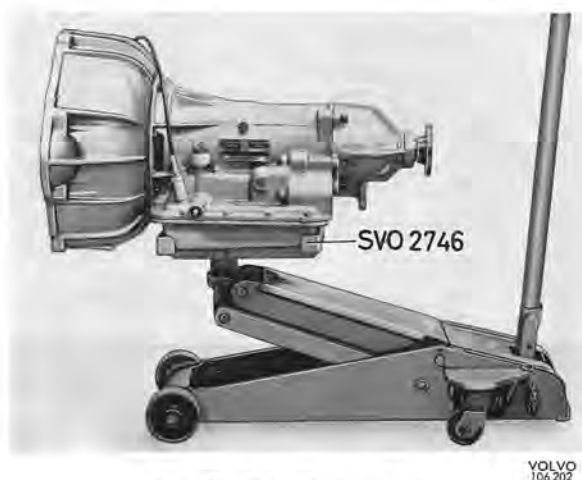

Fig. 4-78. Fixture for transmission
5. Replace the lift plate on a jack with fixture 2746. Support under the gearbox with the jack, see Fig. 4-78.